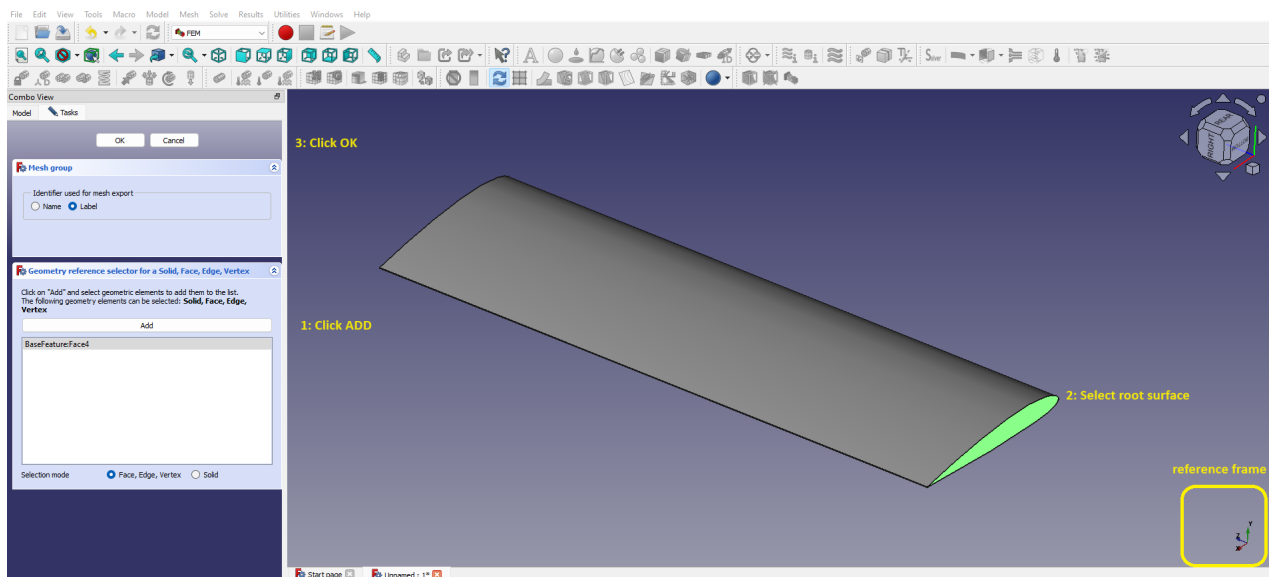

Figure 17: FreeCAD: surface group for root
- Click **Add**, then click on the rendering to select the profile of the wing (pay attention to reference frame to identify it), and **OK** to add the surface to the mesh group (Figure 17). You can rotate the view using the cube in the upper right corner, or using your mouse (e.g., by **Shift + right click**).